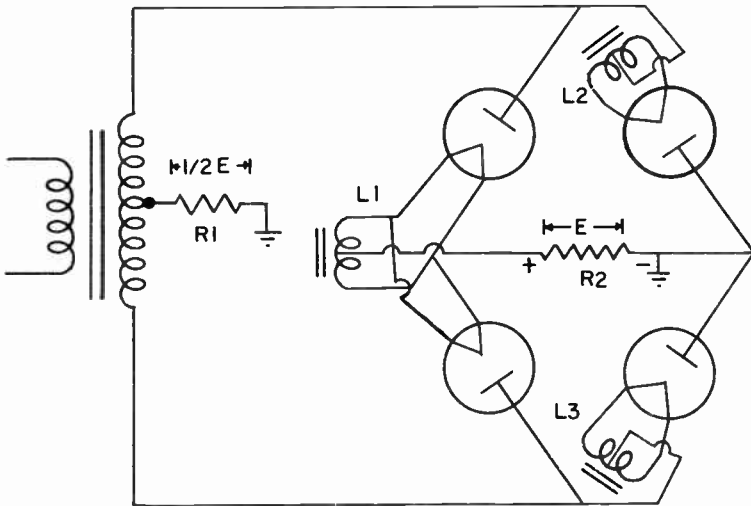

FIG. 7-18. A COMBINATION BRIDGE AND HALF-WAVE RECTIFIER.
**4 BRIDGE AND FULL WAVE RECTIFIER COMBINATION.** Fig. 7-18 illustrates an interesting power supply combination. It is a method of